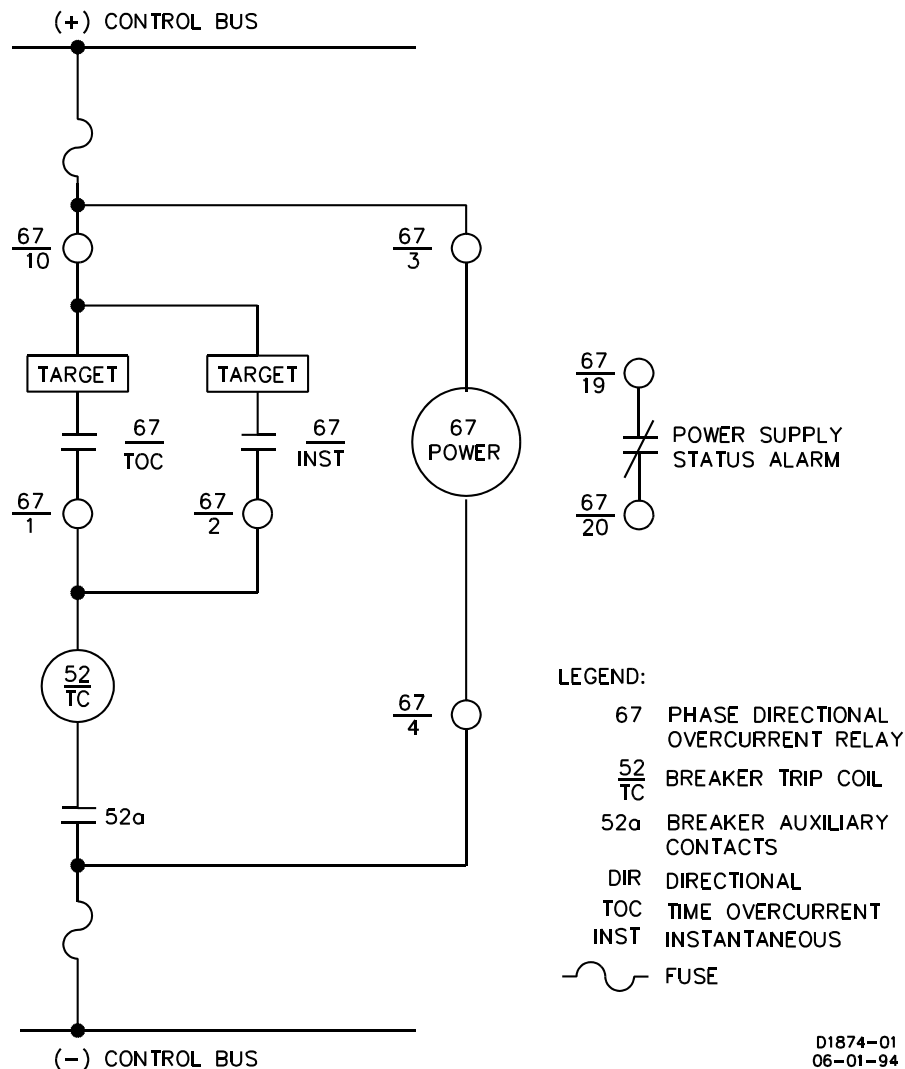

Figure 4-7. DC Control Connections
- Control circuit connections are shown in Figure 4-7.